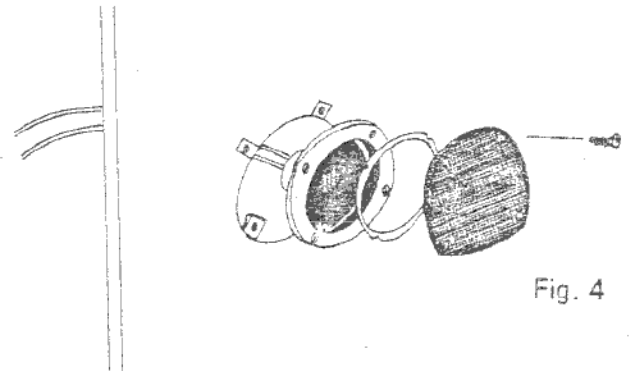

Fig. 4
- 2.5 Connect and mount speaker as shown in Fig. 4.